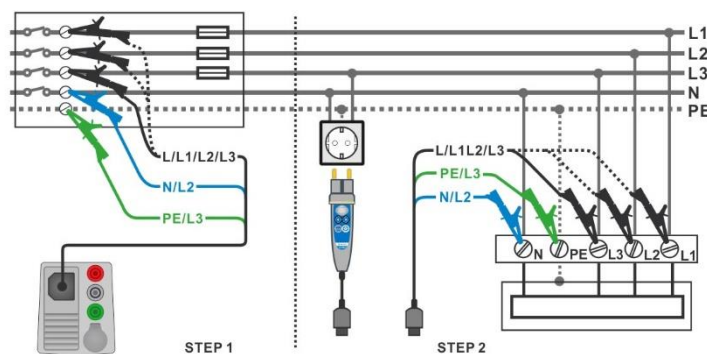

Figure 7.64: Voltage drop measurement – connection of Plug commander and 3-wire test lead
- › Connect 3-wire test lead to the origin of electrical installation, see **Figure 7.64**.
- › Connect 3-wire test lead or Plug commander to the tested points, see **Figure 7.64**.